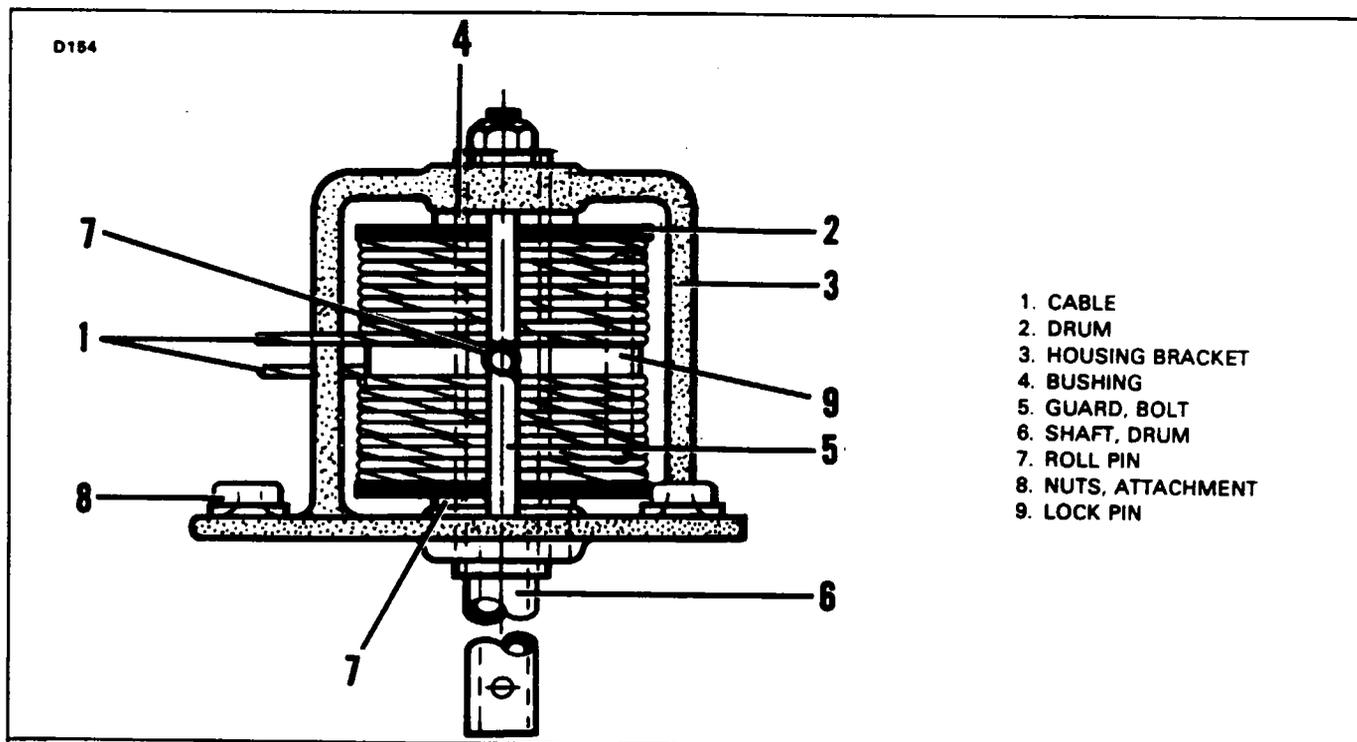

Figure 27-21a. Wrapping Elevator Trim Drum (Control Pedestal)
**WRAPPING ELEVATOR TRIM DRUM (CONTROL PEDESTAL).** (Refer to Figure 27-21a.)
8. Insert the drum in the housing bracket, position the drum and route the cables from the assembly as shown in Figure 27-21a.